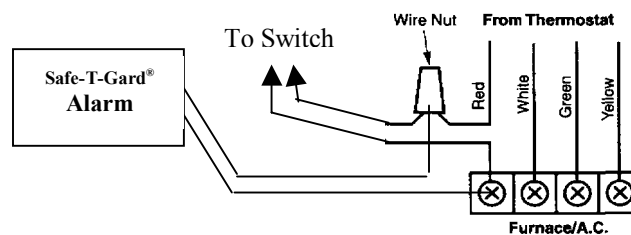

Fig. 1 – Wiring Diagram
4. Wire alarm by connecting leads at same point in red or yellow thermostat circuit as overflow switch (See Fig. 1).